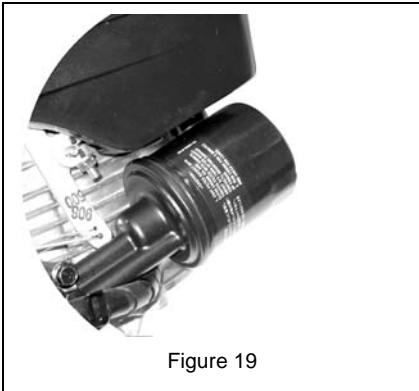

Figure 19
3. Turn filter counterclockwise to remove (Figure 19).